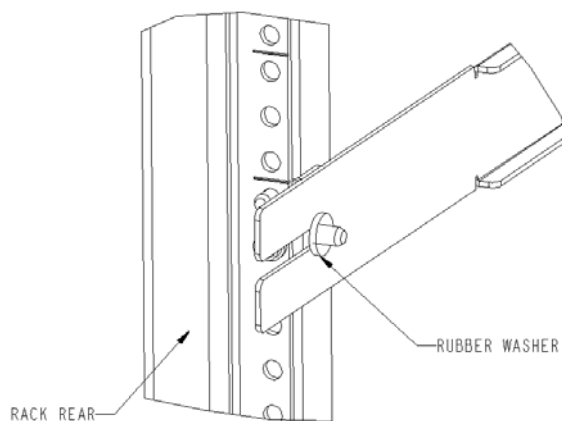

Figure 2-6. Installing the Rubber Washers
- a. As an aid in assembly, two rubber washers have been included to help keep the rear slotted portion of the outer rail flush against the rear rail-tray brackets. Install them as shown in Figure 2-6.